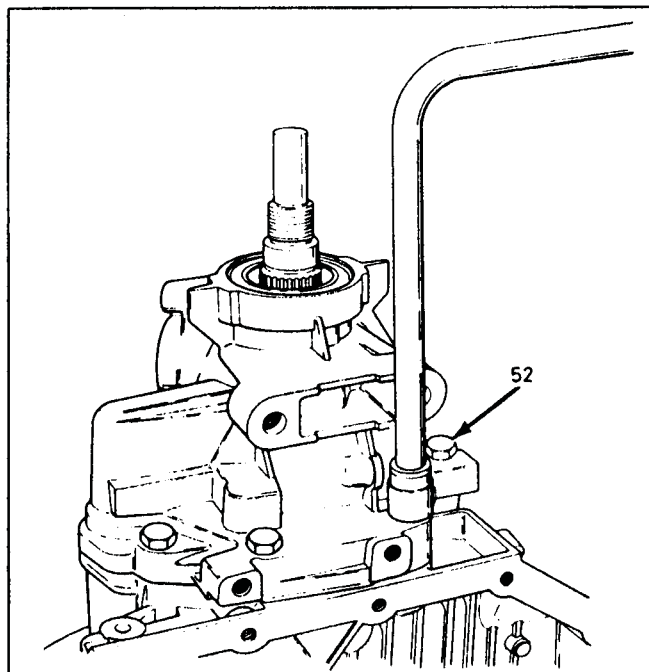

Figure 25
8. Remove seven extension housing bolts as shown in Figure 25.